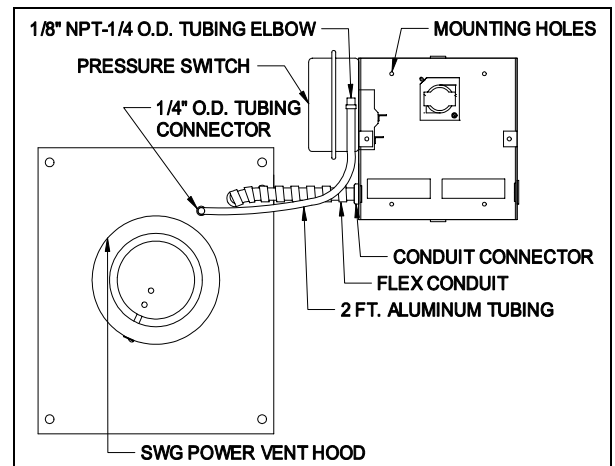

Figure 3
2. Fasten the flexible conduit from the SWG Venter into the conduit connector. Mount the CK-92F junction box or installer supplied junction box onto the wall or floor joist without straining the flexible conduit. Fasten the CK-92F junction box through the four dimpled locations on the base of the box. (See Figure 3)
1. Attach the 1/4 inch tubing connector to the pressure tube on the SWG Venter. (See Figure 3)